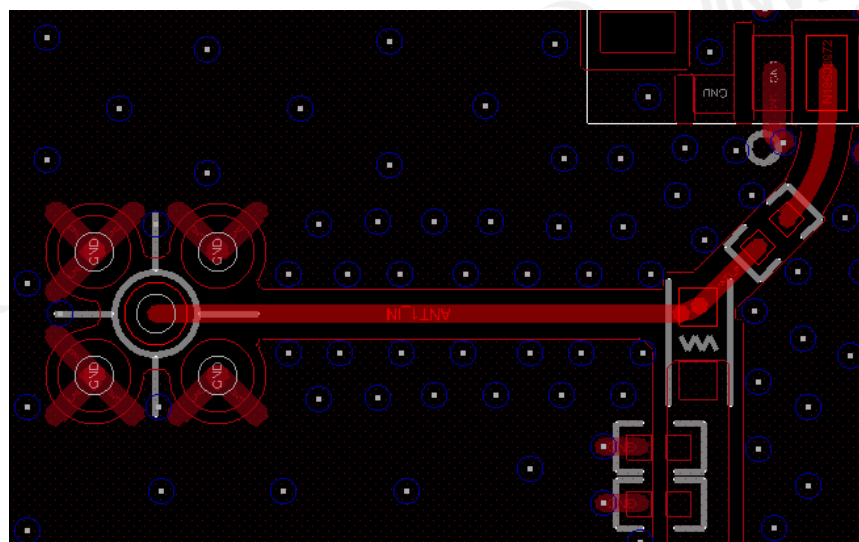

Figure 11 PCB design of antenna module
- b) In order to prevent the introduction of interference, there should be a 50 ohm impedance during the antenna cabling to ensure signal integrity, and the length is as short as possible with grounding. The ground pad of the feed filter capacitor should be placed close to the antenna, and the inductor L1 should be placed in the cabling path. See Figure 11.